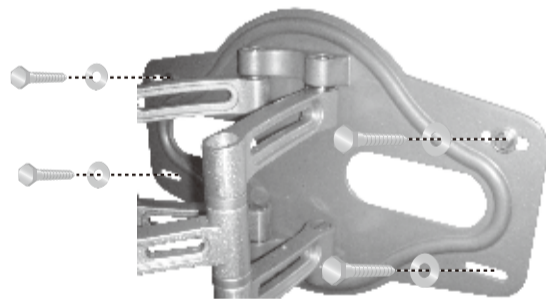

Fig. 1 - Attach the wall plate to the wall.
5. Place the mount back against the wall and secure it using the Lag Bolts (Q) and Lag Bolt Washers (R) provided (see Fig. 1). Do not over-tighten these bolts and do not release the mount until all bolts are in place.